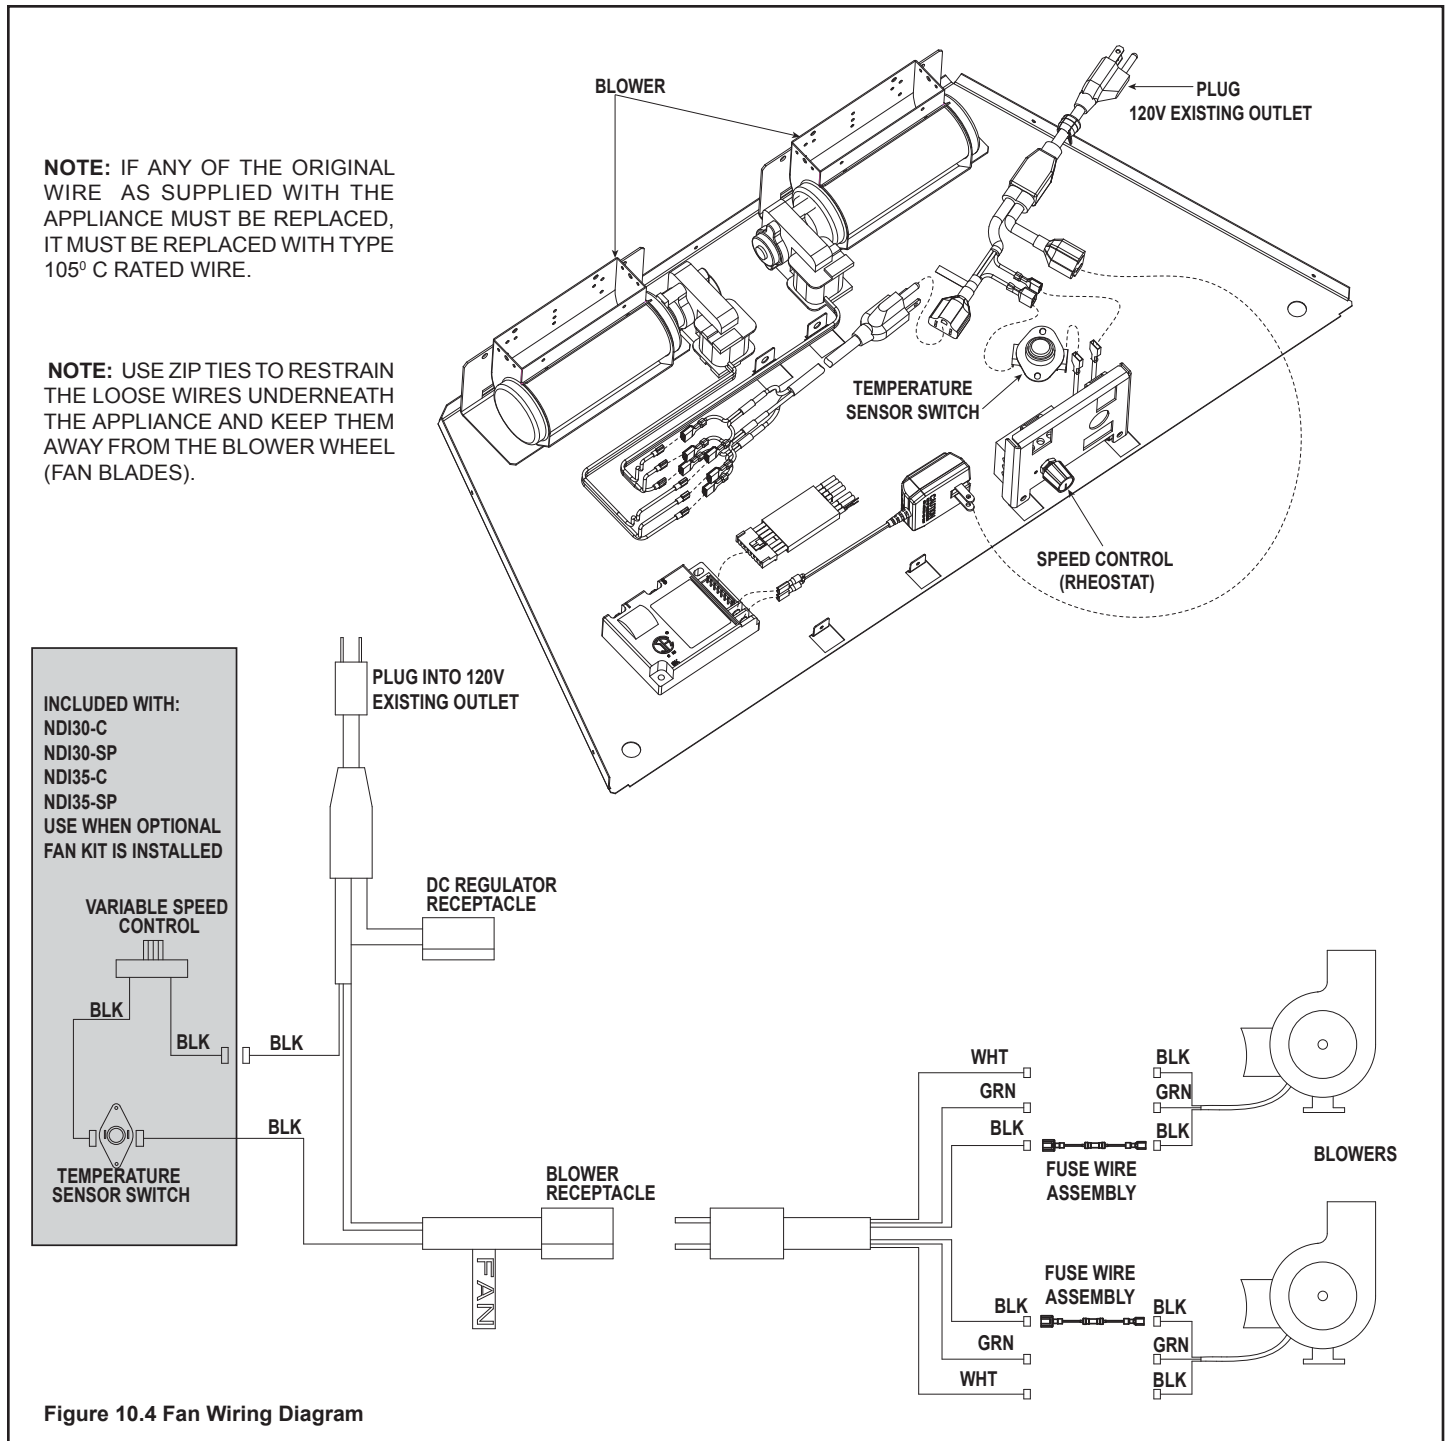

Figure 10.4 Fan Wiring Diagram
- This appliance comes standard with a 120 VAC cord assembly which has a female plug in to accommodate all control options and accessories. See Figure 10.4. This is required for use of optional accessories (standing pilot ignition) or proper operation of the appliance (IntelliFire Ignition). An outlet box may be installed in a bottom back corner of the existing solid fuel masonry or factory built fireplace to plug in the cord assembly, or the supplied power cord may be routed out onto the hearth to a nearby outlet.
- To connect optional accessories, the supplied cord assembly should be used. See Figure 10.4 for a wiring diagram for a blower or remote.